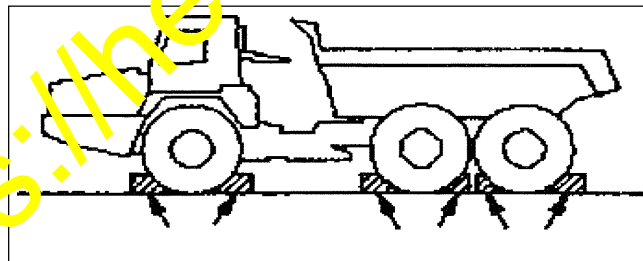

Fig. 1
- 2) Park the vehicle on a flat place, apply the parking brake, turn off the starting switch key and, after that, apply chocks. (Refer to Fig. 1)